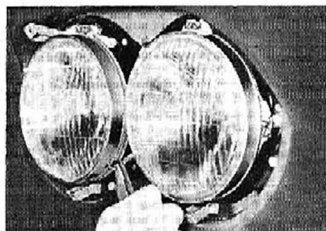
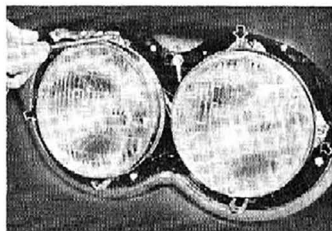

Fig. 53—Unhooking Retaining Ring Spring
Fig. 54—Removing Retaining Ring Screws
2. With long nose pliers remove the retaining spring from the retaining ring (fig. 53), then remove the retaining ring attaching screws (fig. 54). DO NOT disturb the adjusting screws.